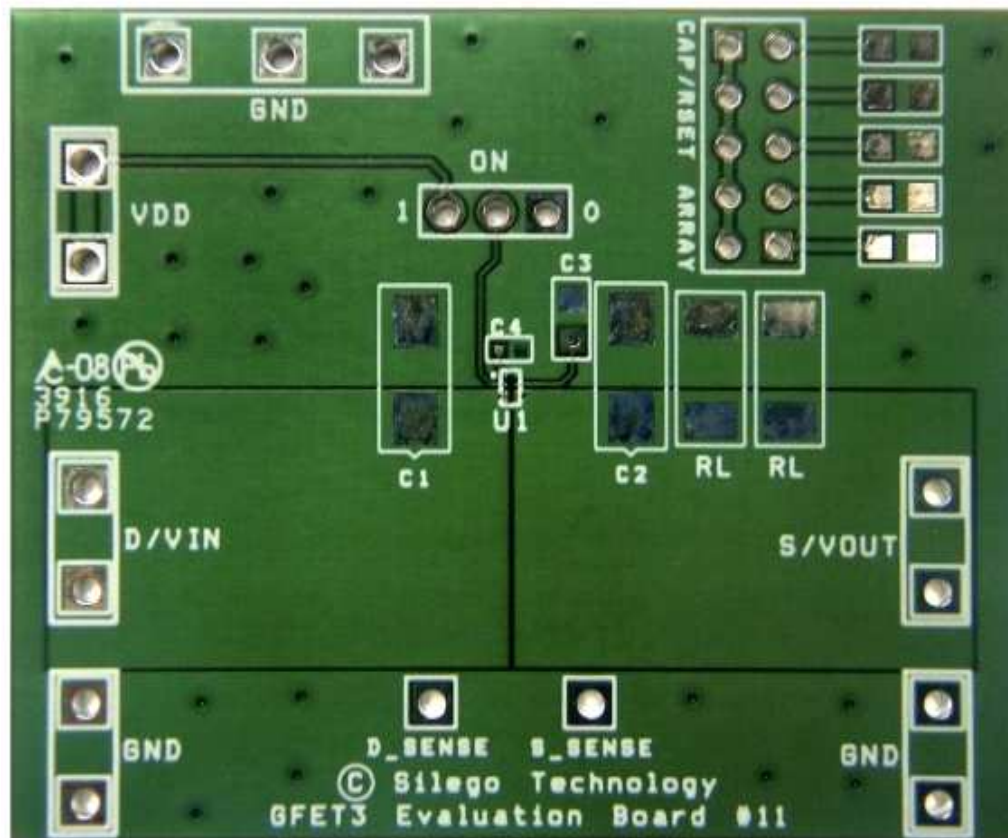

Figure 5. SLG59M1735C Evaluation Board
2. Since the VIN and VOUT pins dissipate most of the heat generated during high-load current operation, it is highly recommended to make power traces as short, direct, and wide as possible. A good practice is to make power traces with absolute minimum widths of 15 mils (0.381 mm) per Ampere. A representative layout, shown in Figure 5, illustrates proper techniques for heat to transfer as efficiently as possible out of the device;
A GreenFET Evaluation Board for SLG59M1735C is designed according to the statements above and is illustrated on Figure 5. Please note that evaluation board has D_Sense and S_Sense pads. They cannot carry high currents and dedicated only for RDS_{ON} evaluation.